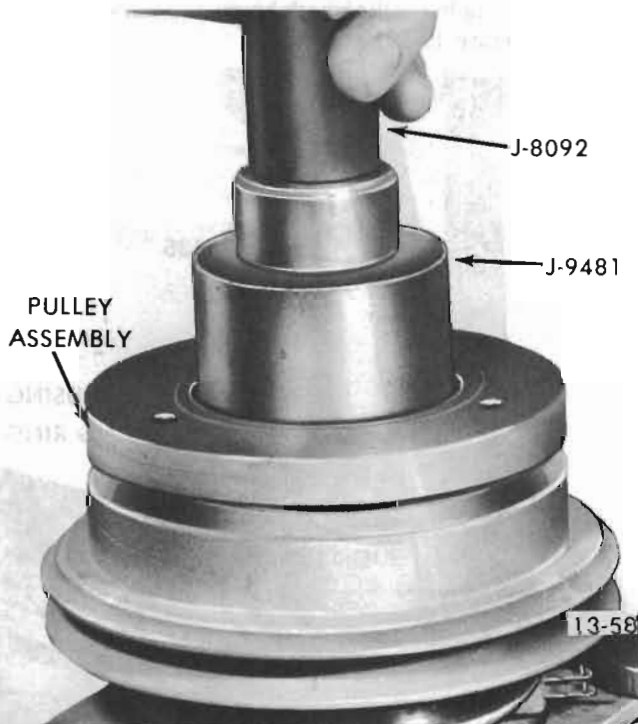

Figure 13-33 Installing Pulley Assembly
4. Drive pulley assembly onto hub of front head (see Figure 13-33) using installer (J-9481) and handle (J- 8092).